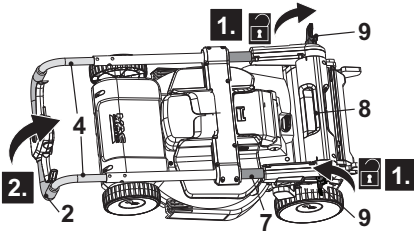

Fig. 1
1. Unfold and loosen the clamp levers (9) anti-clockwise on the lower handle bars (7), but do not remove them (Fig.1, step 1).
2. Hold the grip handle (2) with one hand and unfold the handle assembly (Fig. 1, step 2). Make sure that the inter-connection cord (19) run on the upper side of the upper handle bar (4) and the lower handle bar (7).